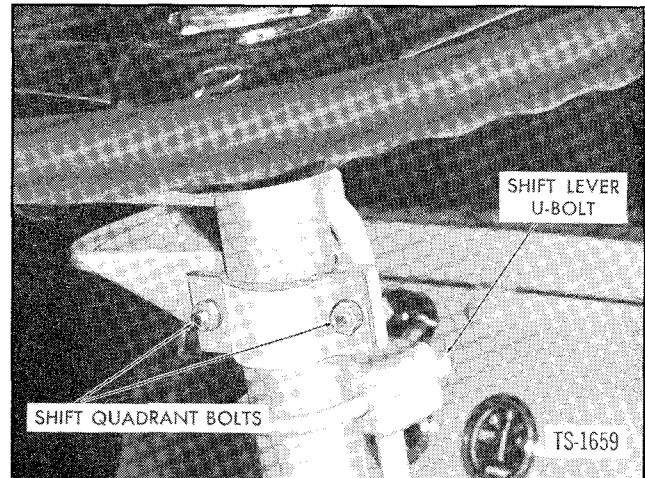

Fig. 14. Tighten Shift Quadrant and Shift Lever Mounting Bolts
2. Check and tighten U-bolts holding shift lever support plates to steering column. See Figure 14. These bolts should be snug. If too tight, levers will bind in support plate grommets. Support plates are keyed into steering column which prevents their rotation.